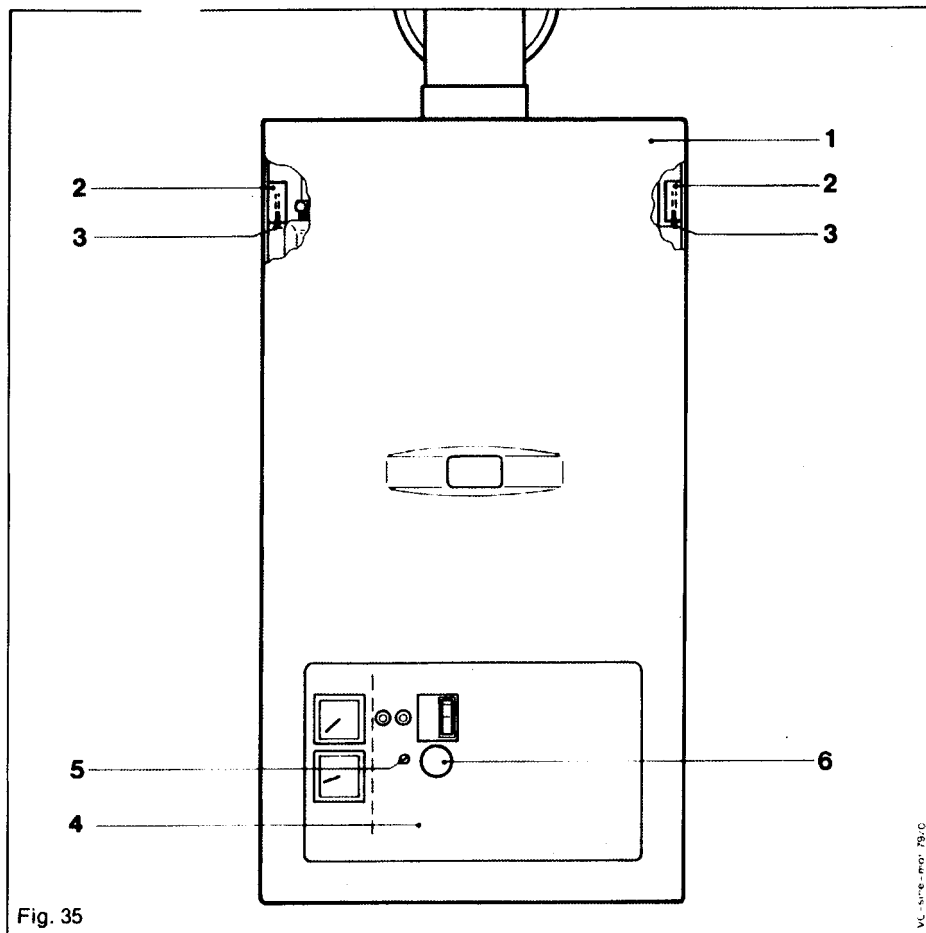

Fig. 35
13.3 Removing outer case (Fig. 35)